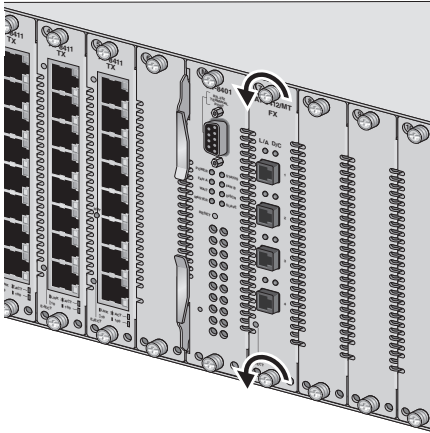

Figure 11. Loosening the Installation Screws
- Using a Phillips screwdriver, loosen the two installation screws on the faceplate of the linecard. See Figure 11 below.